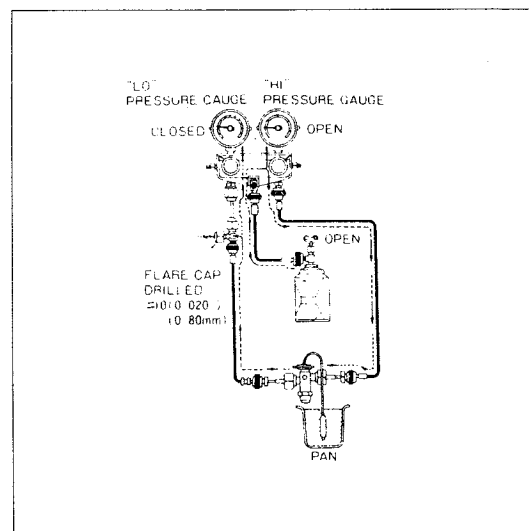

Fig. 57
- 1) Connect the refrigerant charging gauge, expansion valve, orifice and refrigerant drum with the charging hoses as shown in Fig. 57.